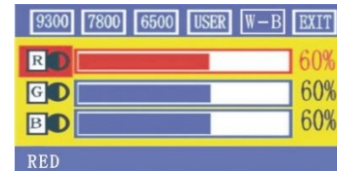

Fig.10
1. Color adjustment(  ): when the function is selected, the monitor will come into the sub-menu[as Fig. 10], there are five functions that can be selected: a, 9300k; b, 7800k; c, 6500k; d, USER; e, W-B. Selecting USER, you will enter user mode and you can make adjustment to R/G/B values to obtain your satisfying color; Selecting W-B, it will enter color balance mode, and the monitor will automatically adjust the white-black color reference voltage to obtain optimal color balance.